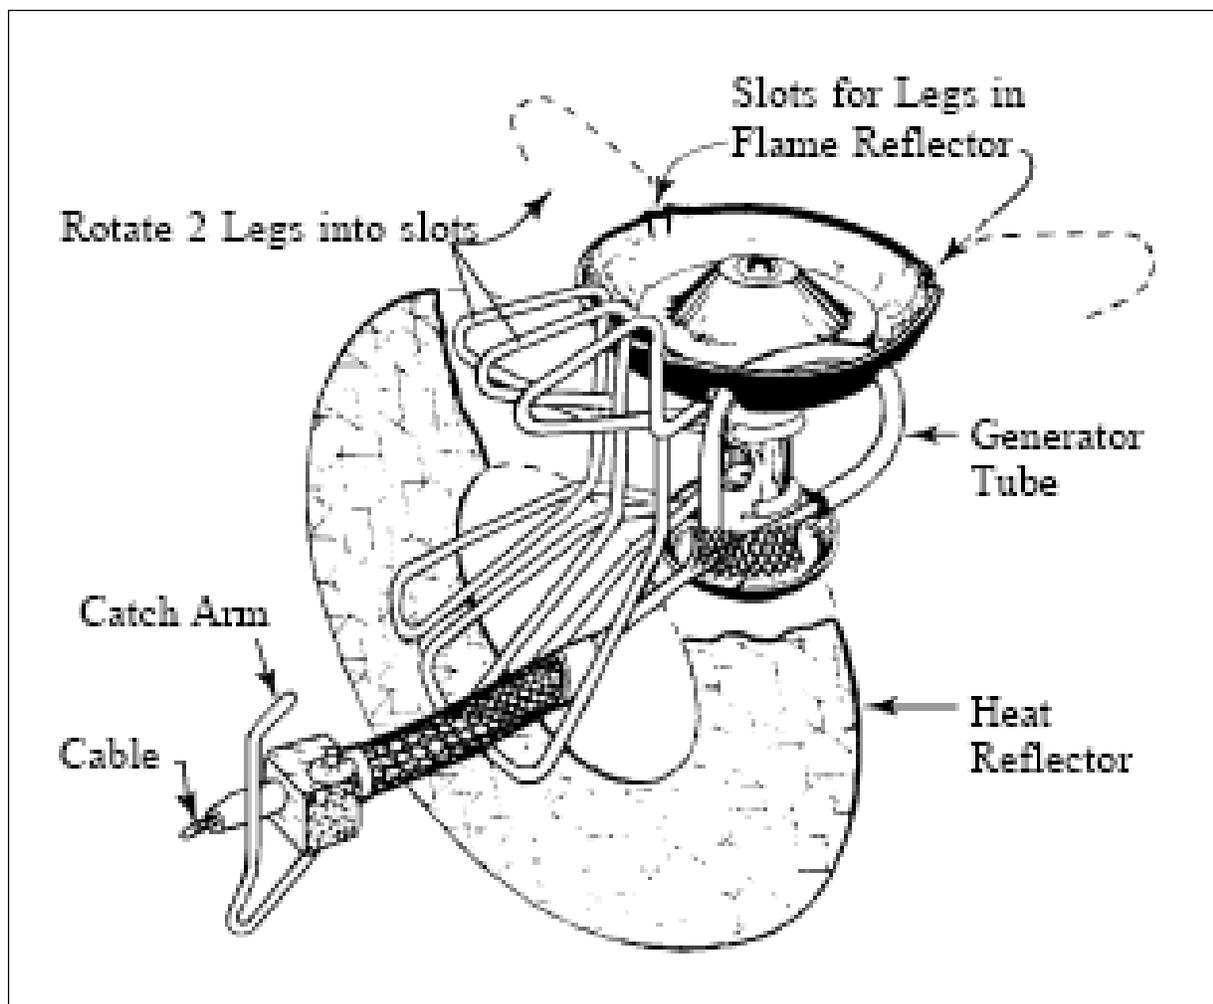

Figure 3
(4) Unfold heat reflector and insert fuel line through center hole. Guide reflector over bottom of legs. See Figure 3
(5) Rotate legs clockwise until they snap into the slots on the flame reflector. Do not move leg containing fuel line.